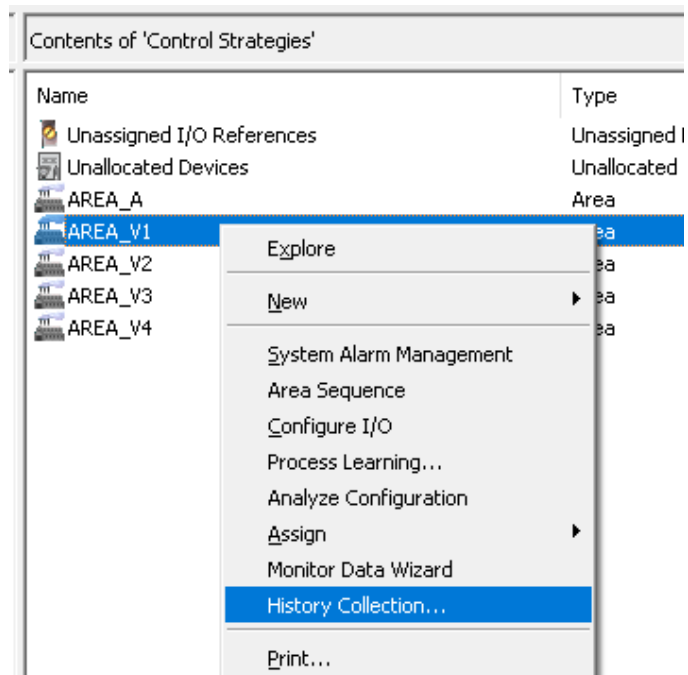

Figure 7.5. History Collection for AREA_V1.
3. In the pane on the right, right-click the appropriate **AREA_VX** and click **History Collection** (Figure 7.5).